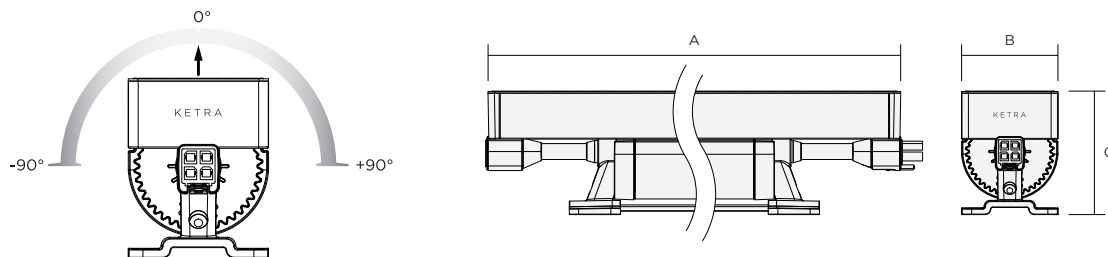

Figure 5
- The product can be rotated 180 degrees to enable aiming the beam. Note that when rotated, the overall height and width of the space required for installation may change. (see fig. 5)